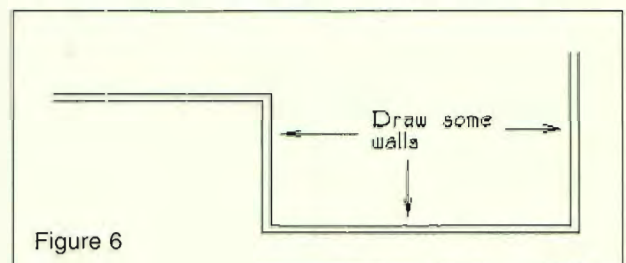

Figure 6
5. Take a few moments to draw three or four new interconnecting walls, as similar as possible to walls shown in Figure 6. Use Orthomode ON to draw straight walls (press the O to turn it ON, as indicated in the message area of your screen). The